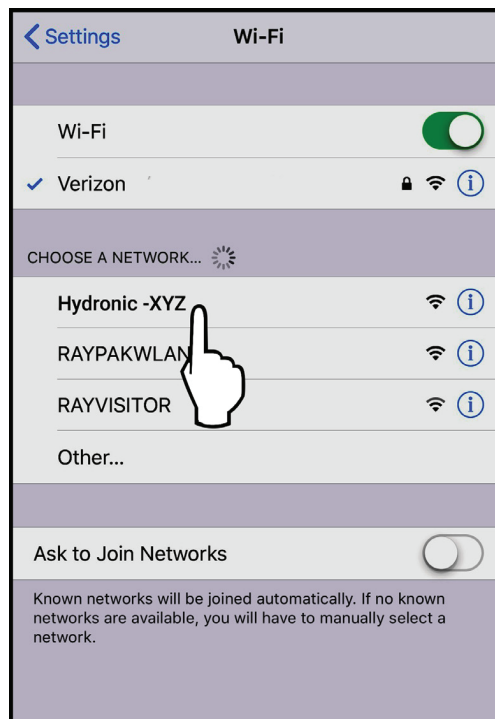

Figure 25. Select the HOTSPOT Identifier
7. Select the HOTSPOT identifier that matches the unit's Touchscreen as shown in **Figure 25**.